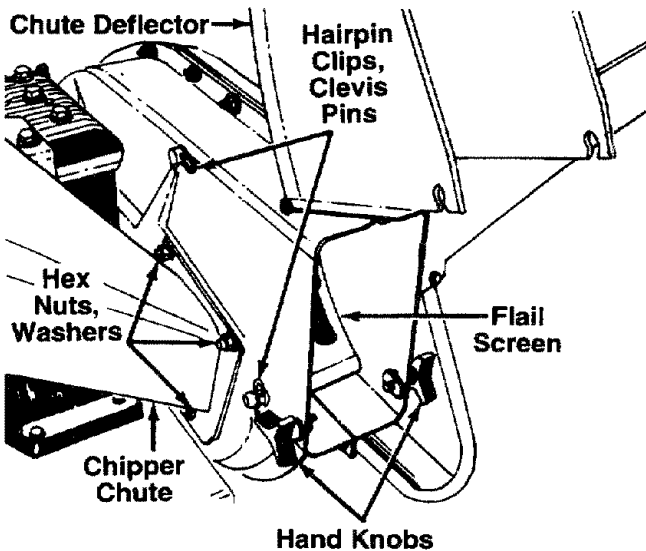

FIGURE 17.
- Remove two hairpin clips from the clevis pins which extend through the housing. Remove the clevis pins. Lift the flail screen from inside the housing. See figure 17.
**NOTE:** Be certain to reassemble the flail screen with the curved side down as shown in figure 17.
- Remove the chipper chute by removing three hex nuts and washers. A 1/2" wrench is required. See figure 17.